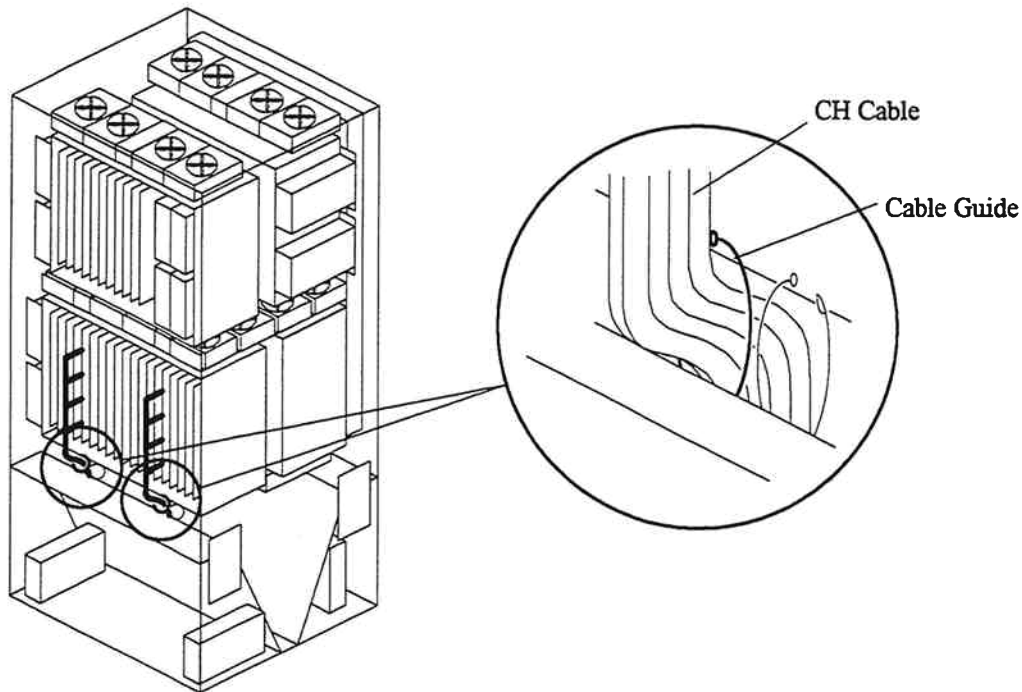

Fig. 3.3.6.2.2-13 Cabling
- a. Connect the CH cables to the sub-edge connectors on PCB. Refer to Fig. 3.3.6.2.2-14 and Table 3.3.6.2.2-4.